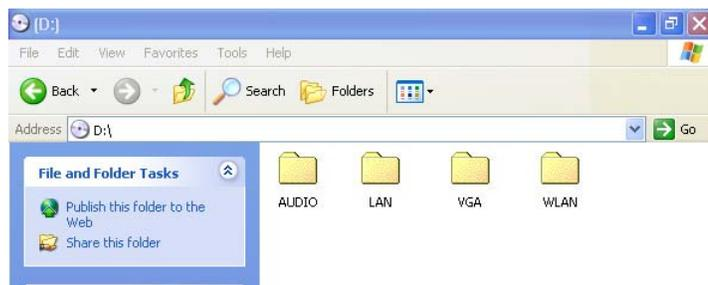

Figure 6-1: Available Drivers
Step 2: A window with a list of available drivers appears (**Figure 6-1**).
Step 3: Select the driver to install from the list in Figure 6-1. Detailed driver installation instructions follow below.
Step 1: Select **Chip** from the list in **Figure 6-1**.
Step 1: Select **AUDIO** from the list in **Figure 6-1** and locate the **X :\AUDIO\WDM_R191** directory, where “**X:**” is the system CD drive.
Step 1: Select the **VGA** driver from the list in **Figure 6-1**.